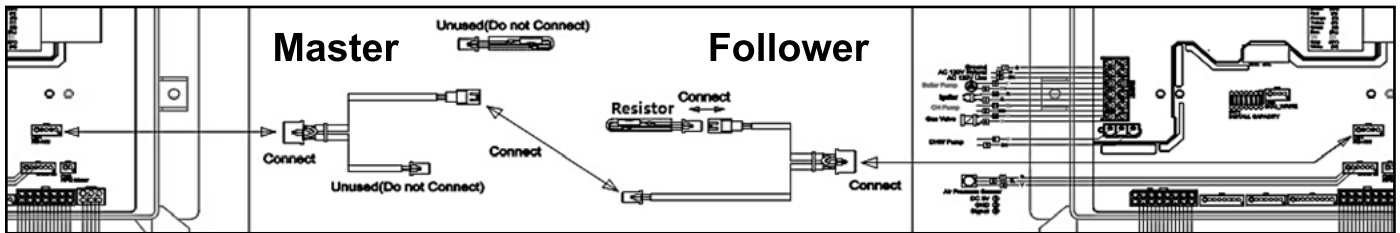

Figure 32 - Cascade Wiring Detail
1. Connect the cascade communication cables to every unit. See Figure 32. Add resistor to the end of the last follower.